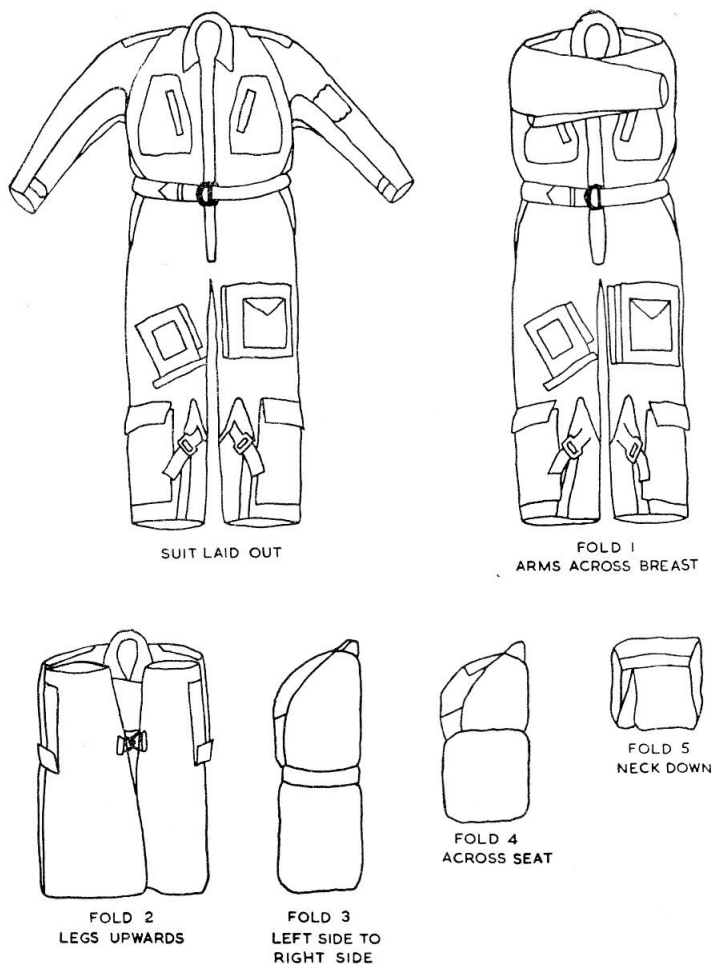

Fig. 2. Folding suits
11. To fold a suit for storage or transit follow the sequence shown in fig. 2. This is:—